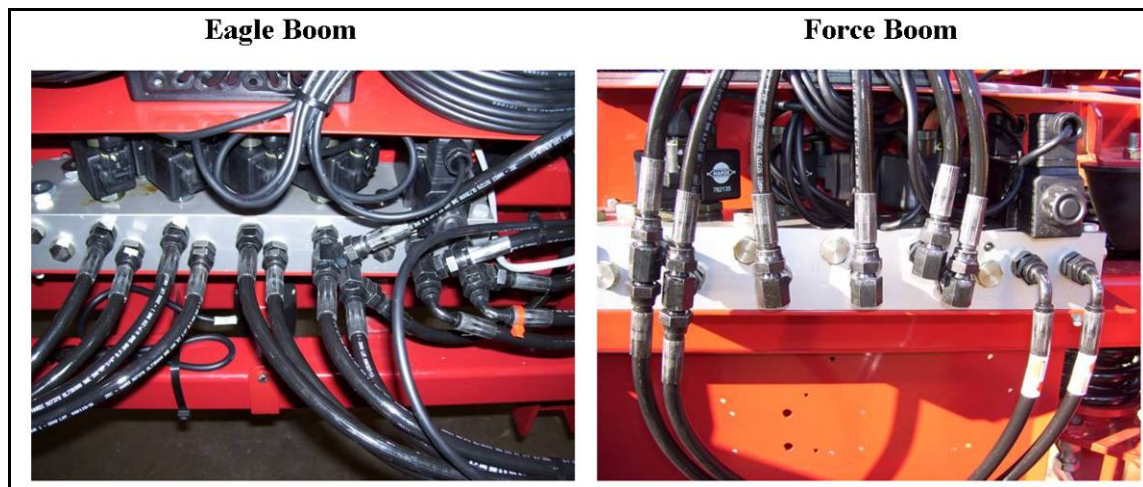

Figure 27: Location of Hoses on Hardi Valve Block
9. At the Hardi main valve block, remove the hydraulic hoses that run from the “raise” line of the tilt cylinders to the valve block (**Figure 27**).